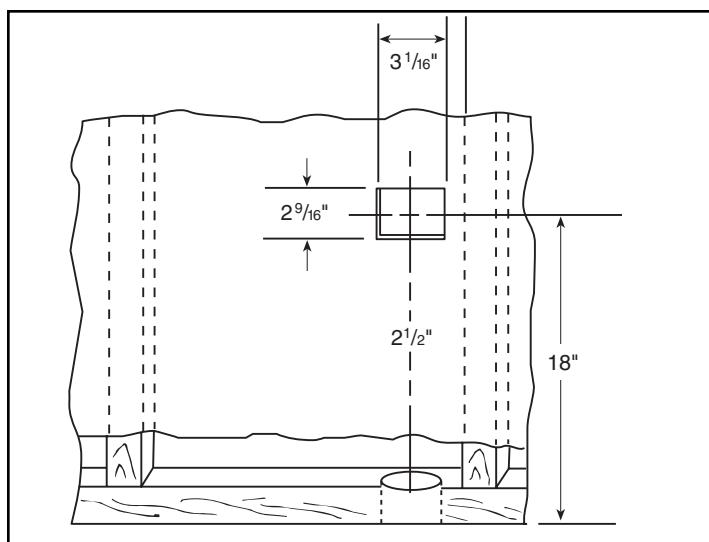

FIGURE 30
5. If area is clear, cut an inlet opening in the wall approximately 18" above the floor. Make sure wall opening and  $2\frac{1}{2}$ " tube hole line up (Figure 30).